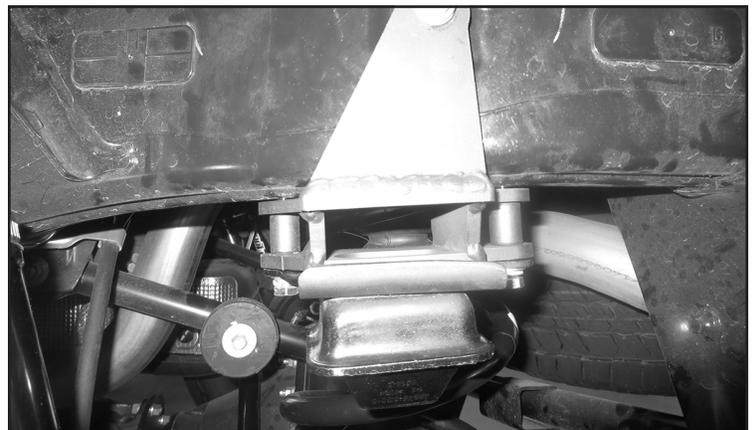

FIGURE 24 - STEP 25
25. Install the factory bumpstop to the new bracket using the supplied 8mm bolts and washers. Torque to 18 ft-lbs. **SEE FIGURE 24**